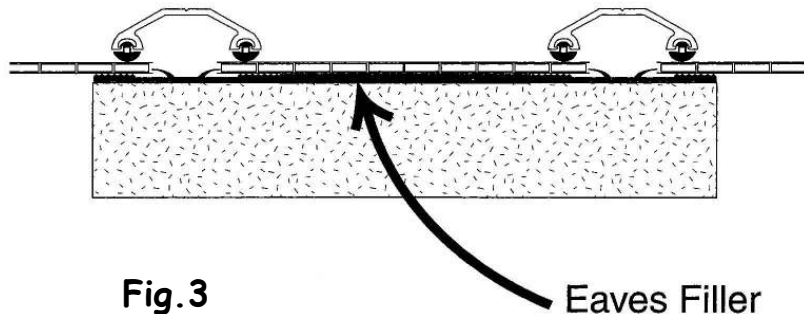

Fig. 3
Step 3: Fix the eaves filler, if using, across the structure at the eaves end (Fig.3). This solves the problem of filling the gap between the underside of the sheet and the top of the support structure.